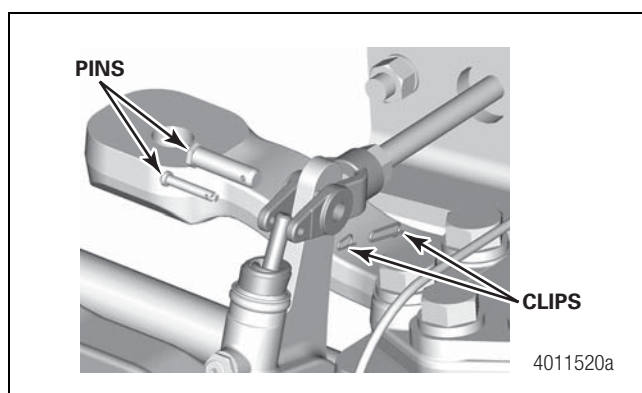

Figure 4.15
2. Remove the pins that engage the push rod yoke and the slack adjuster. Figure 4.15.